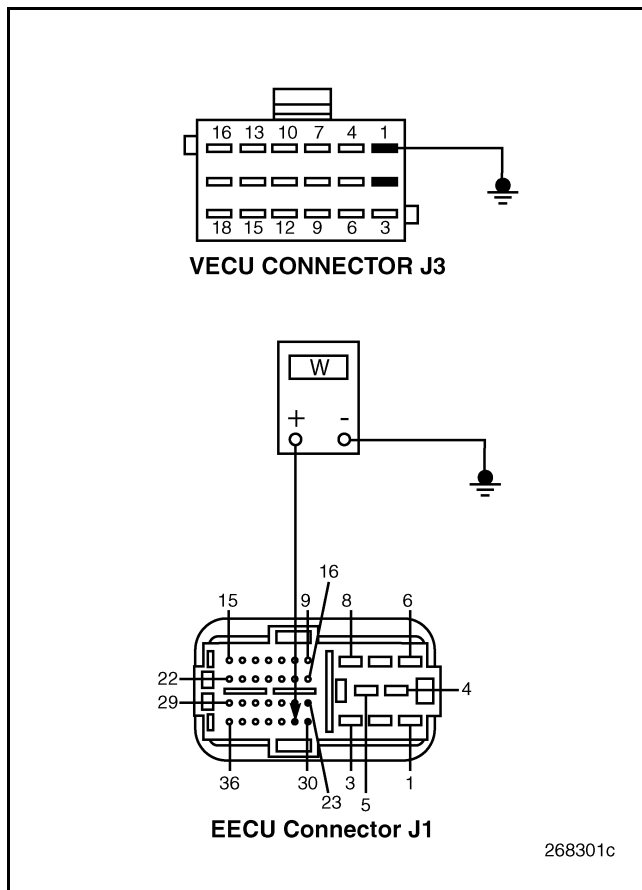

Figure 657
5. Check for continuity between EECU connector J1 pin 31 and a good ground (see Figure 657).